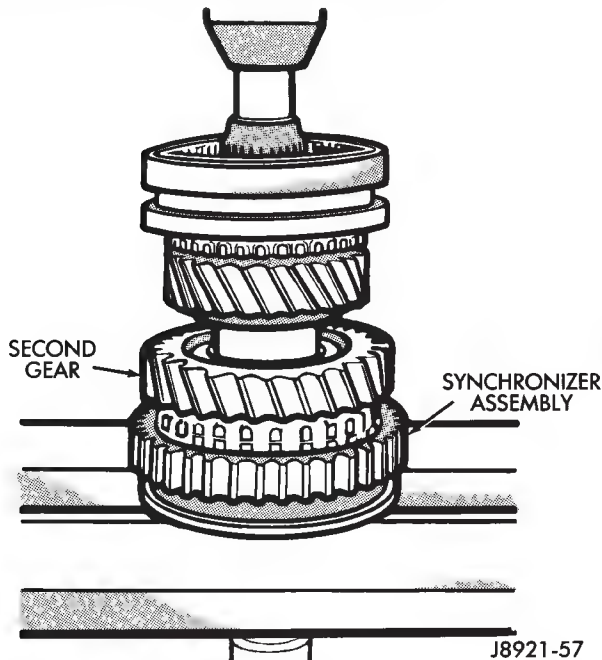

Fig. 50 Installing Second Gear And Synchronizer
(10) Assemble second gear, gear needle bearing, synchronizer ring and 1-2 synchronizer. Then press assembly on output shaft (Fig. 50).